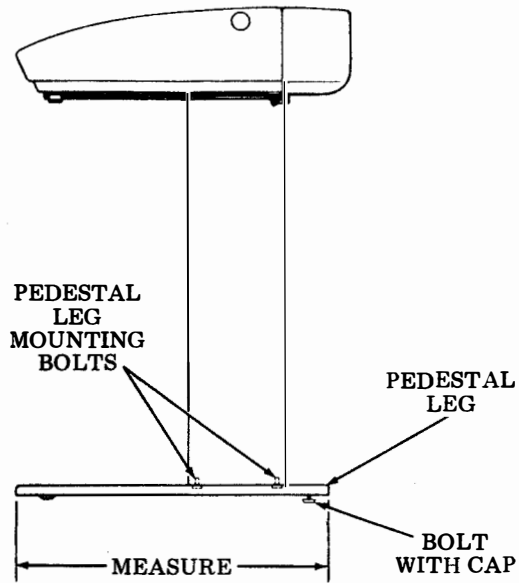

Fig. 8
4.12 Measure the length of the pedestal legs as shown in Fig. 8. If the legs are 22-3/4 inches long, go to 4.16. If the legs are 19-1/2 inches long they must be replaced by longer pedestal legs (430458) and new bolt with cap (430457) to provide stability when using the paper winder.
4.14 Thread the 430457 bolt with cap into the 430458 leg. Remove the two bolts mounting the early design leg to the pedestal. See Fig. 8. Replace with the late design pedestal legs and fasten with the bolts previously removed.